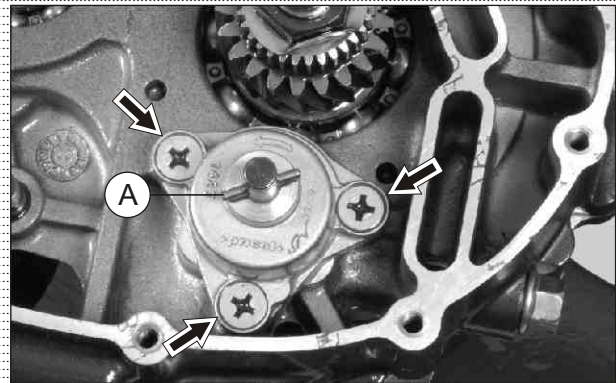

Fig. 4.42
- Remove pin oil pump driven gear (A). (Fig. 4.42)
- Remove CSK head screw (M6x20 - 3 nos.) and take out pump assembly oil. (Fig. 4.42)